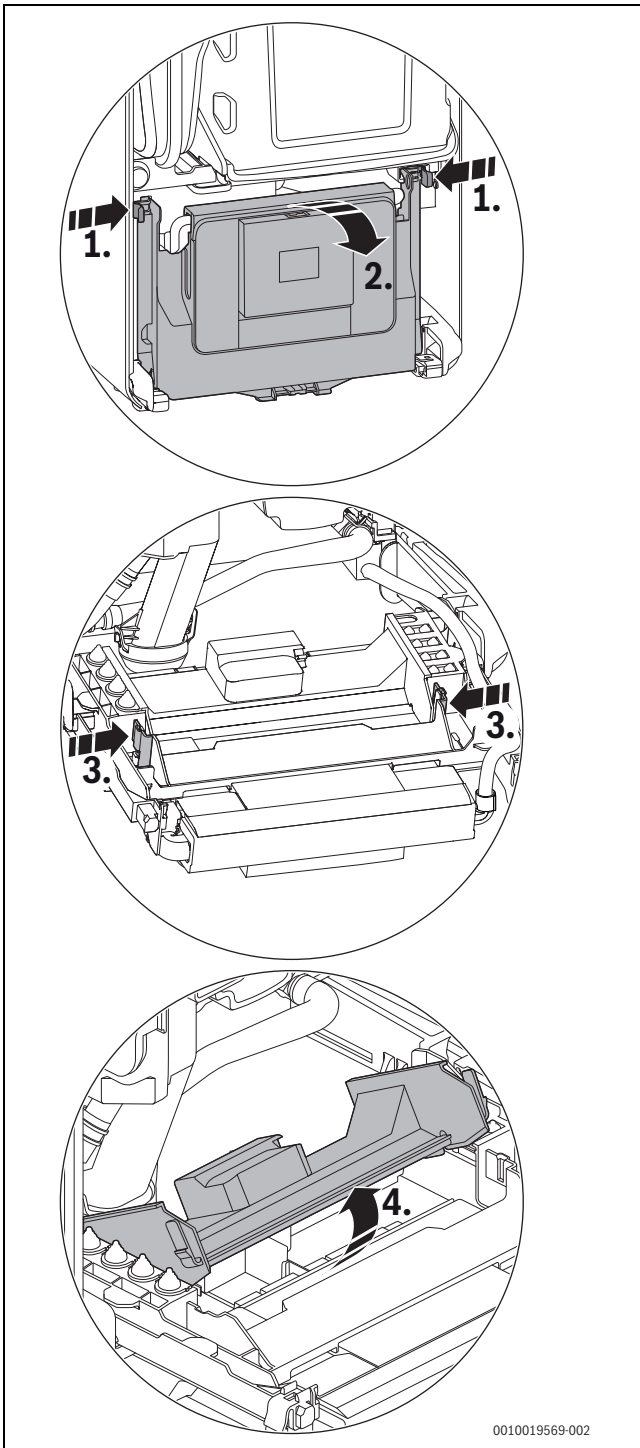

Fig. 56 Opening the cover
- ▶ Flip down the control appliance (→ Fig. 56)